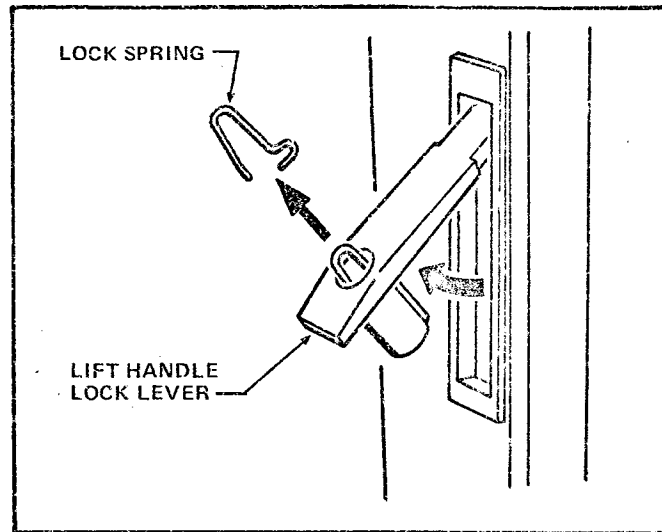

FIGURE 1
1. Move the Lift Handle Lock Lever to the position shown in Figure 1, open the Door and remove the Lock Spring.